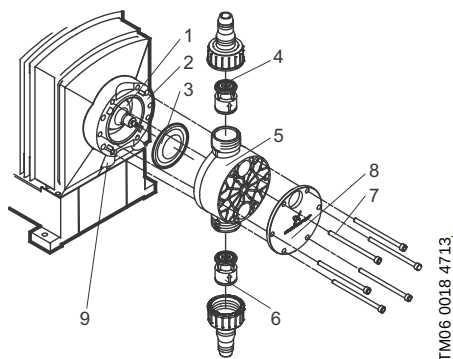

Fig. 27 Dosing head, exploded view (without deaeration valve)
This section refers to fig. 27.
If the diaphragm leaks or is broken, dosing liquid escapes from the drain opening (fig. 27, pos. 9) on the dosing head flange.
In case of diaphragm breakage, the safety diaphragm (fig. 27, pos. 1) protects the pump housing against ingress of dosing liquid.
When dosing crystallizing liquids the drain opening can be blocked by crystallization. If the pump is not taken out of operation immediately, a pressure can build up between the diaphragm (fig. 27, pos. 3) and the safety diaphragm in the flange (fig. 27, pos. 1). The pressure can press dosing liquid through the safety diaphragm into the pump housing.